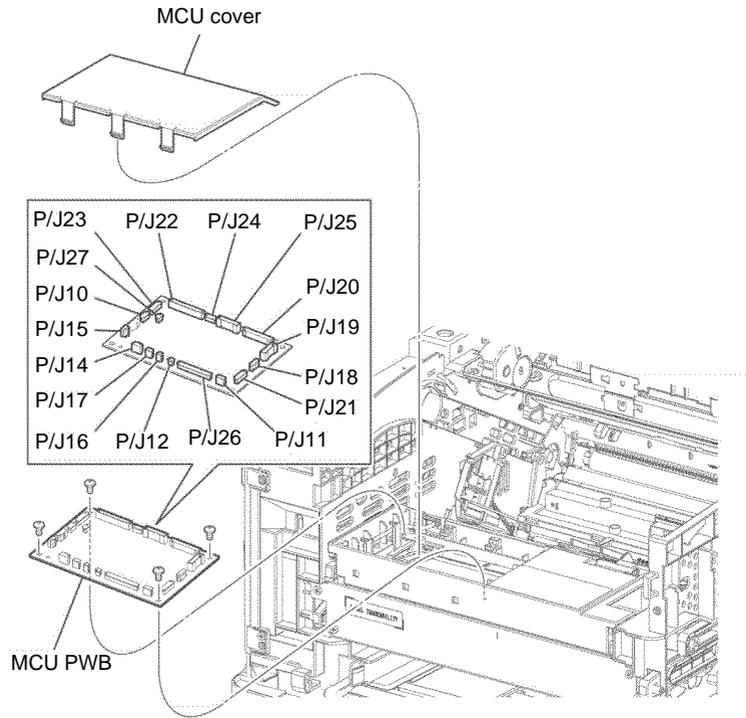

Figure 2 MCU PWB removal
5. Remove the MCU cover, by releasing the hooks, Figure 2.
6. Disconnect all connectors from the MCU PWB, Figure 2.
7. Remove four screws (silver, M3, 6mm), then remove the MCU PWB, Figure 2.